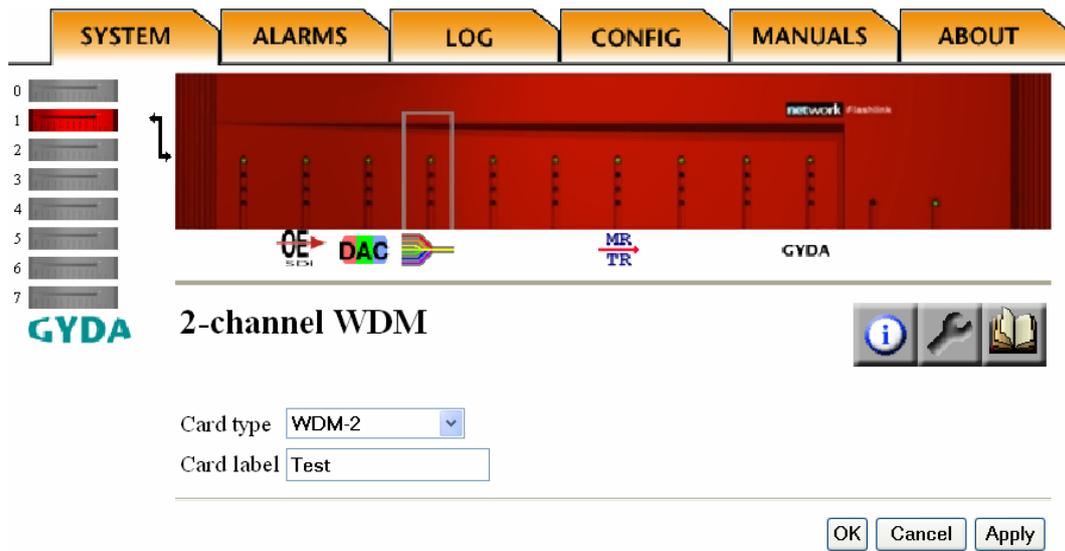

Figure 17. Graphical icon for passive optical modules.
- The graphical icon and the name of the module will appear when returning to the SYSTEM tab, as shown in figure 17.